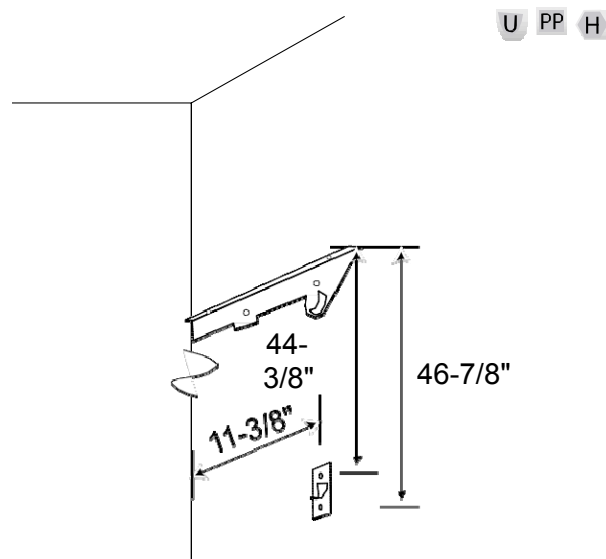

Fig. 3
8. If this is a double hang section, install pole cup below bracket. Measure down from the top of the bracket to mark the two holes for the pole cups. (See Fig. 3.) Set down pole cup.